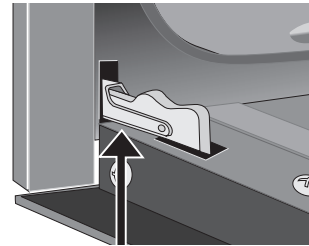

Figure 42: Door hinge locks
2. Pull the door hinge locks on both left and right door hinges up from the oven frame completely towards the oven door (See Figure 42). A tool such as a small flat-blade screwdriver may be required to unlock the hinge (Figure 43).
4. Push the door hinge locks up towards and into the oven frame on both left and right oven door hinges to the locked position (See Figure 42).